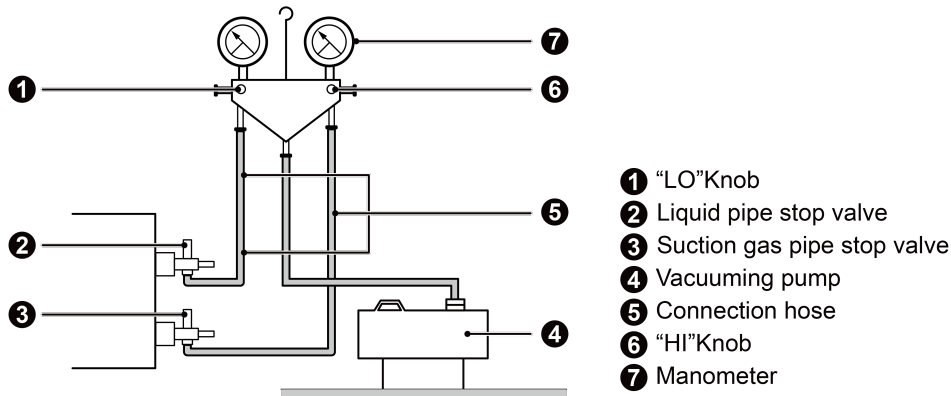

Fig.4.5.1
- (2) Confirm whether outdoor liquid and gas valves are closed.
- (3) Use vacuum pump to withdraw the air inside indoor unit and connection pipe from the outdoor valve, as shown in Fig.4.5.1 below.